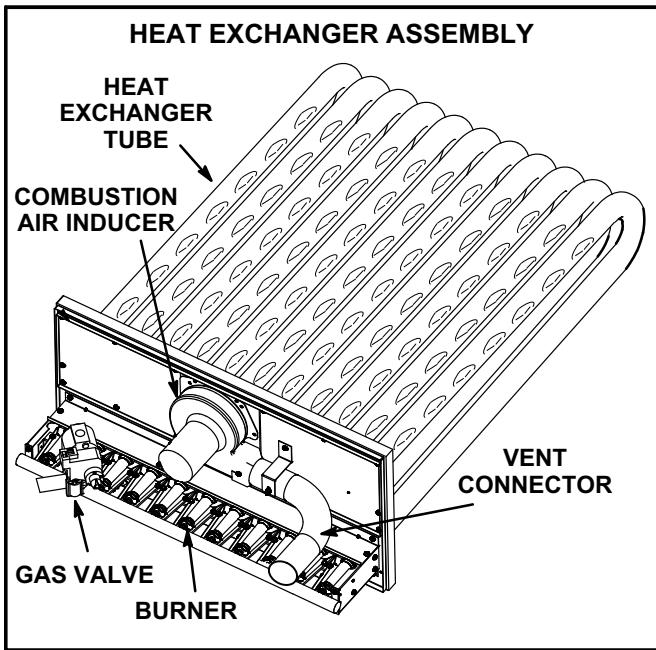

FIGURE 44
- 3- Remove and retain screws securing combustion air inducer to flue box. Remove and retain two screws from bracket supporting vent connector. See figure 44.